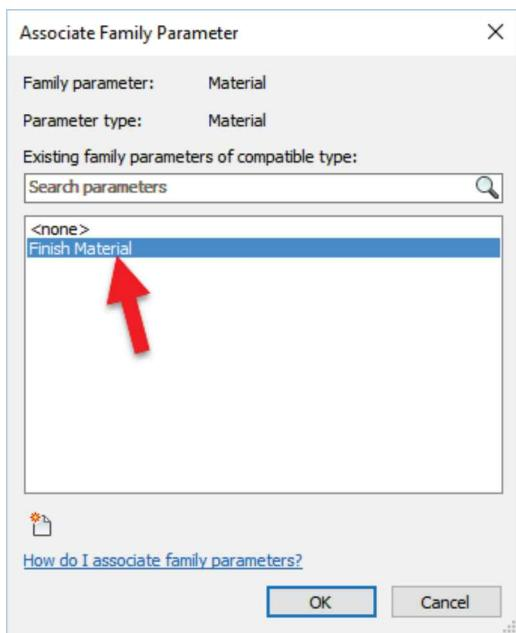

FIGURE 17-4.19 Mapping material to parameter
37. Select **Finish Material** from the list and then click **OK** (see Figure 17-4.19).